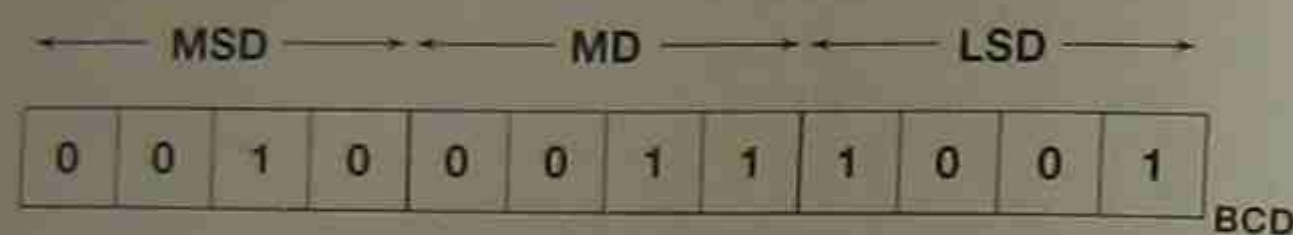

Figure 6-40 Converting a BCD Number to a Decimal Number
When only three decimal digits are to be represented, using 12 bits, they are further identified as *most significant digit (MSD)*, *middle digit (MD)*, and *least significant digit (LSD)* (Figure 6-40).